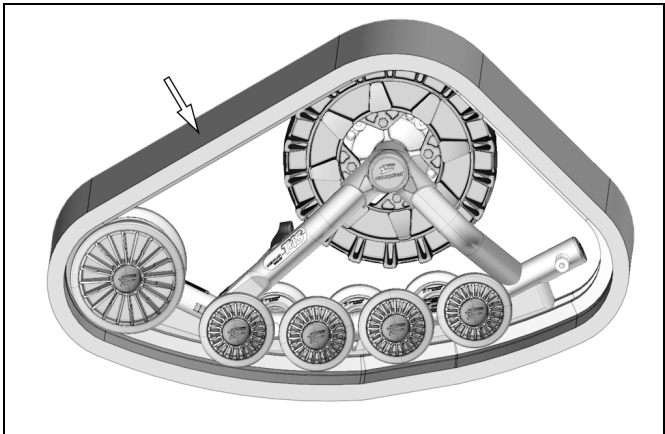

Figure 29
- Install the rubber track. See Figure 29.